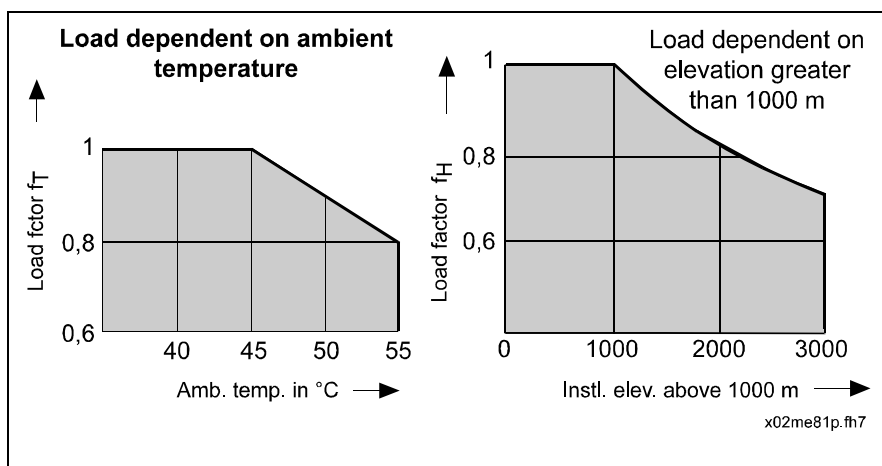

Fig. 10-15: Load factor in terms of ambient temperature and installation elevation
2) With deviating ambient temperatures see Fig. 10-15.
3) With deviating installation elevations see Fig. 10-15.